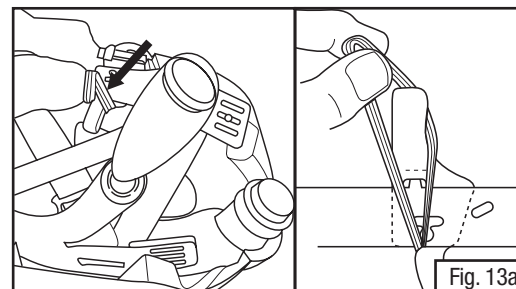

Fig. 13a
- With the visor frame in the down (closed) position, remove plastic faceseal tab from "T" attachment points on headband (Fig. 13a & b).
- Grasp elastic loop on faceseal and pull up over suspension headband and attach to the plastic tab (Fig. 13a).